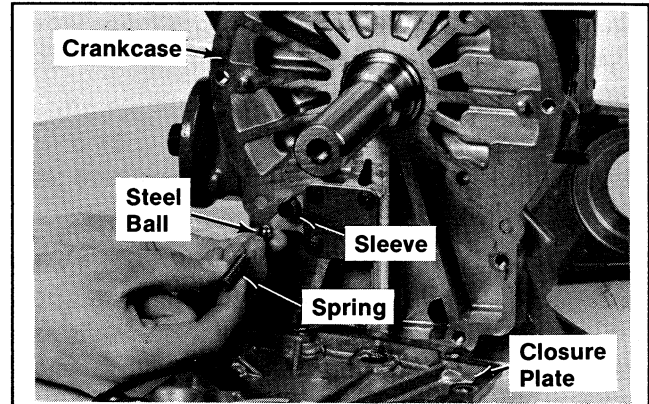

Figure 11-26. Installing Oil Pressure Relief Valve.
- Install the oil pressure relief valve sleeve, steel ball, and spring. Refer to Figure 11-26.
Engines with Serial No. 1830500016 and higher have two alignment pins pressed into the crankcase (see Figure 11-26) to provide proper alignment of the closure plate.